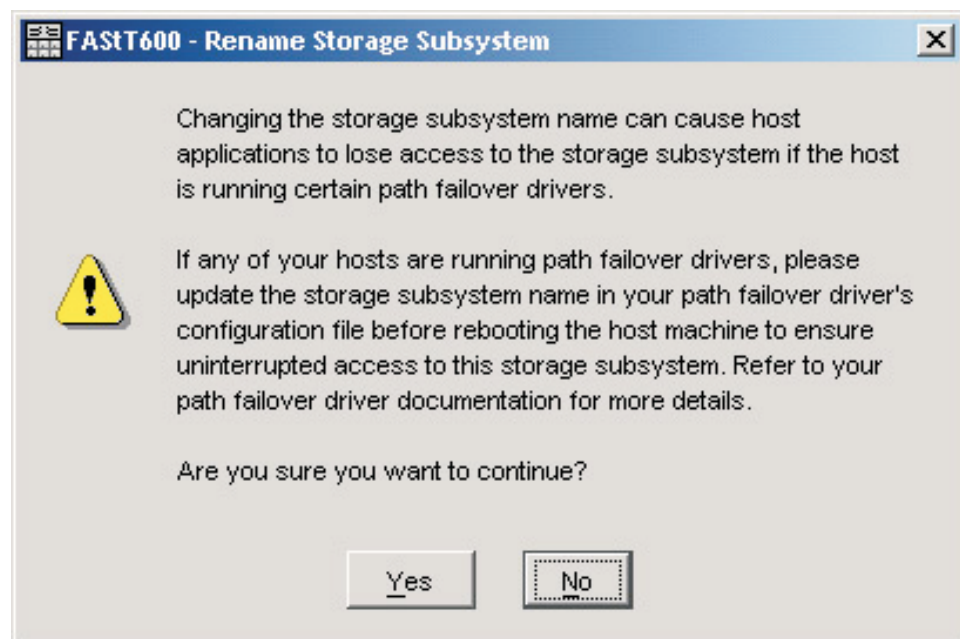

Figure 23. Rename Storage Subsystem window
1. In the Enterprise Management window, Right-click the storage subsystem and select **Rename**. The Rename Storage Subsystem window opens as shown in Figure 23.